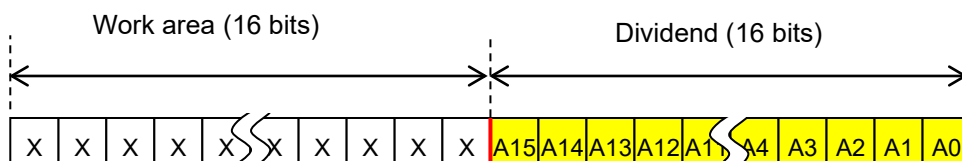

Figure 3.7 The 16th Execution Result
(6) The work area and dividend that are results of having repeated the same shift and subtraction 16 times are shown in Figure 3.7. Here, a surplus is stored in work area and a quotient is stored in a dividend.